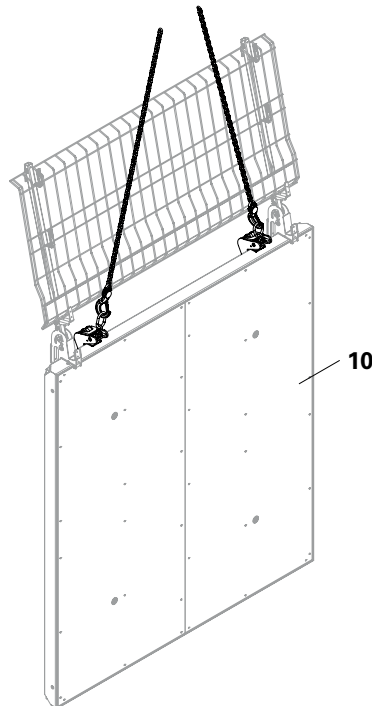

Fig. A7.32
1. Mount Lifting Hook. Ensure that the crane lifting chains are in front of the Side Mesh Barrier. (On the formlining side.) (Fig. A7.32)